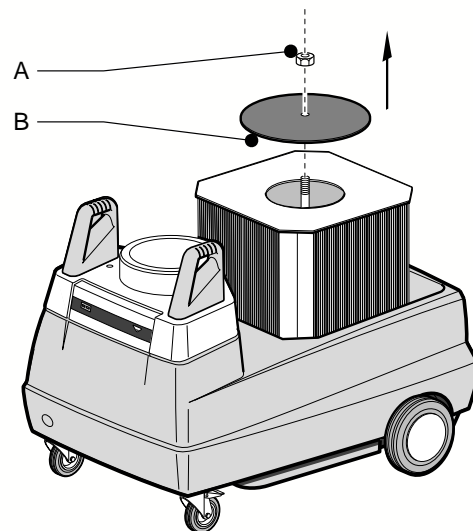

Fig. 17
3. Unscrew the nut (Fig. 17, Item A) and remove the filter sealing plate (Fig. 17, Item B).